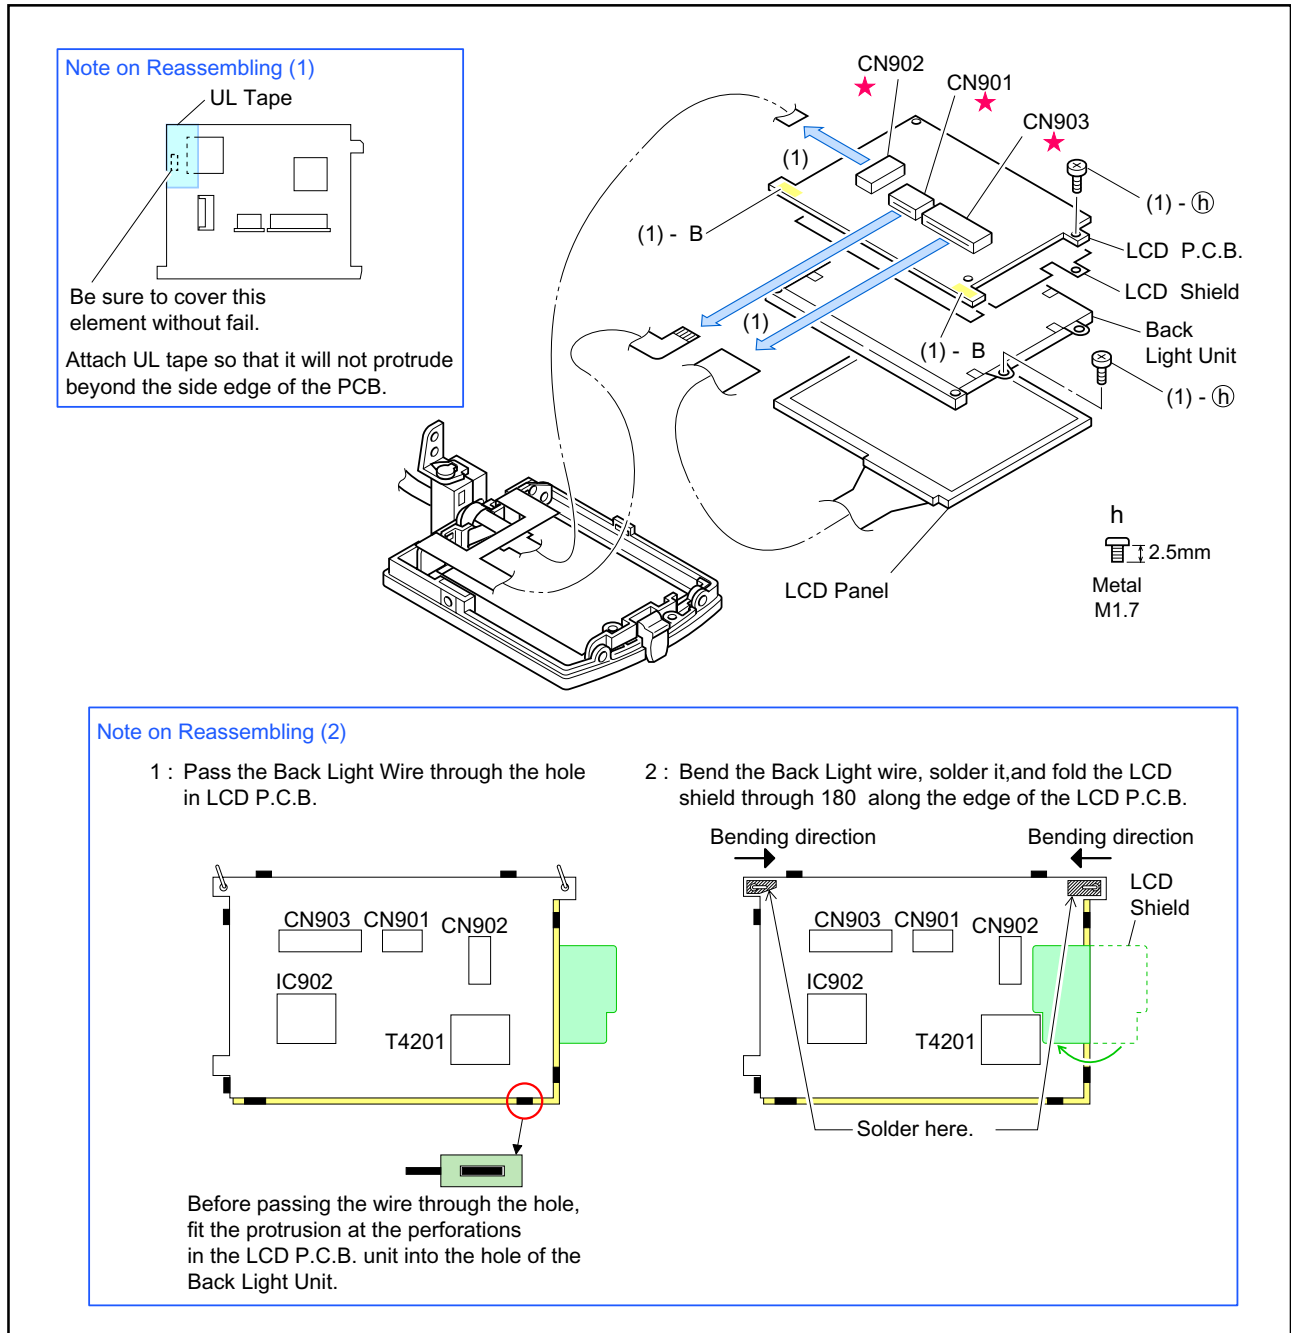

Fig. 4-16
- (1) Cover the element on the LCD P.C.B. with UL tape. Note, however, that UL tape should be attached so taht it will not protrube from the LCD P.C.B.
- (2) Mount the LCD P.C.B., LCD Shield and the Backlight Unit as in the Fig.4-16.